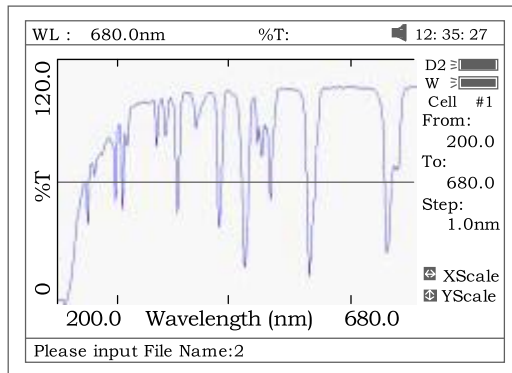

Fig 14
- ✧ Name the curve by pressing the numeric keypad (Fig 14), press the key **【ENTER】** to confirm.
- (2) If the name already exists in memory, the warning “duplicated name, are you sure? ” will appear . “Yes” for overwrite and “No” for Exit.
(3) The length of filename is less than 4.